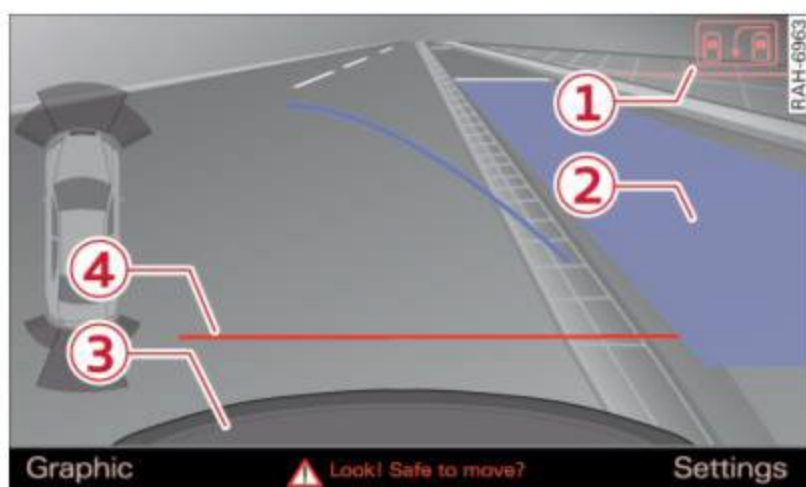

Fig. 121 MMI Display: blue surface in the parking spot
- ▶ Press the **Mode** ⇒ *fig. 121* ① control button on the MMI control console. Parking mode 2 appears.
- ▶ Back up in reverse gear and align your vehicle so that the blue area ② borders on the rear end of the vehicle or on the parking spot line. The blue area represents an extension of the vehicle's outline by approximately 16 ft (5 m) to the rear. The long side of